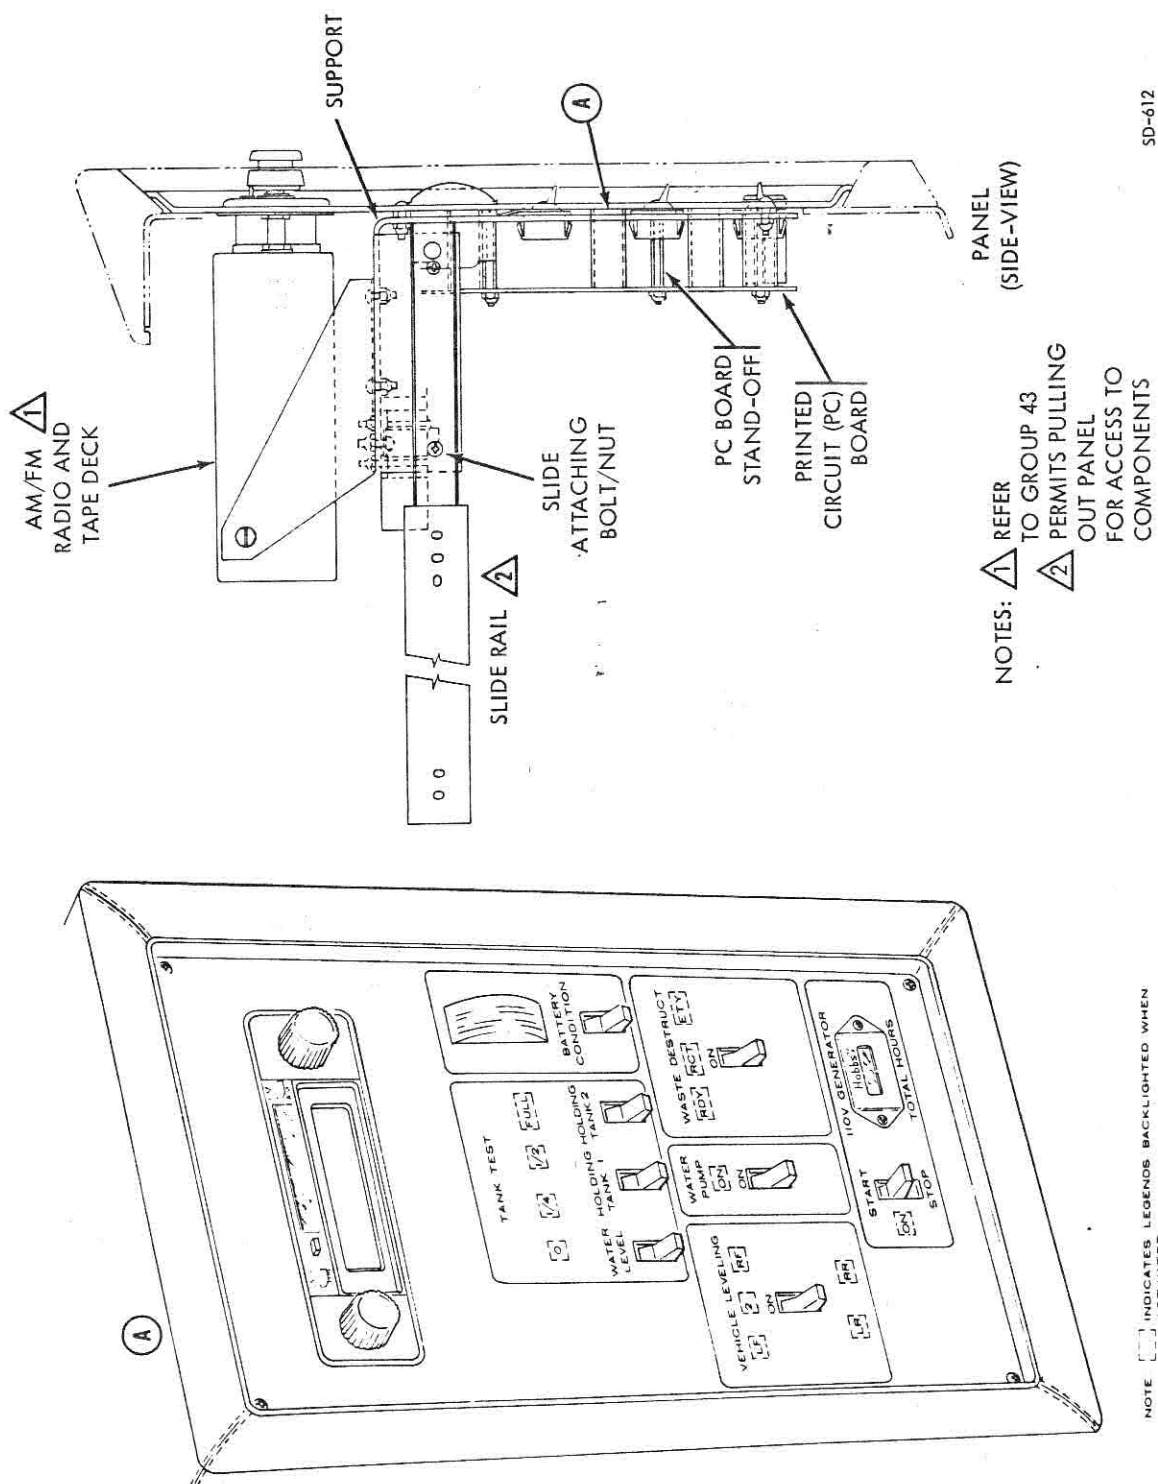

Figure 39-9. Domestic Panel Controls and Indicators
(3) Domestic Panel Controls and Indicators (fig. 39-9). The domestic panel contains a combination of indicators and controls to monitor and initiate performance checks of the coach's domestic facilities. These include functions for the radio, holding tanks, water storage, battery, vehicle leveling, water system pump, waste destruct, APU (110 V generator) and hour meter. The panel is located at the front of the coach between the driver and passenger seats, all controls are within reach of driver and passenger. The panel assembly is mounted on slide-rails permitting it to be pulled out for servicing. Back-lighted indicators are used for domestic functions that require only a quick glance to check status. Meters are used where critical check is required. The domestic functions controlled or monitored at the domestic panel are as follows: